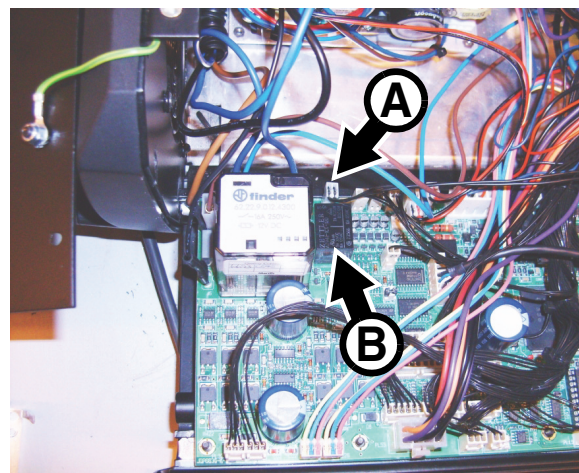

Figure 26
28. See Figure 26. Route the reduced lamp power (dimmer) circuit leads alongside the ballast wiring harness over to the main PCB and plug them into connector PL49 A behind the reduced lamp power relay B on the main PCB.